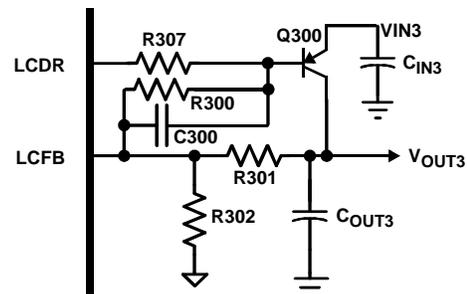

FIGURE 15. LINEAR COMPENSATION COMPONENTS
The linear regulator controller controls an external pass element, typically a PNP bipolar junction transistor; see Figure 15 for reference. The error amplifier in the ISL6442 has approximately 72dB (V) of gain. The linear regulator circuit must be compensated such that the gain of the internal error amplifier crosses through 0dB with a slope of 20dB/decade. This allows easily predictable phase response through the 0dB point. The output circuit has a dominant pole determined by the output capacitance and the combination of the sense resistor and the output resistance of the BJT